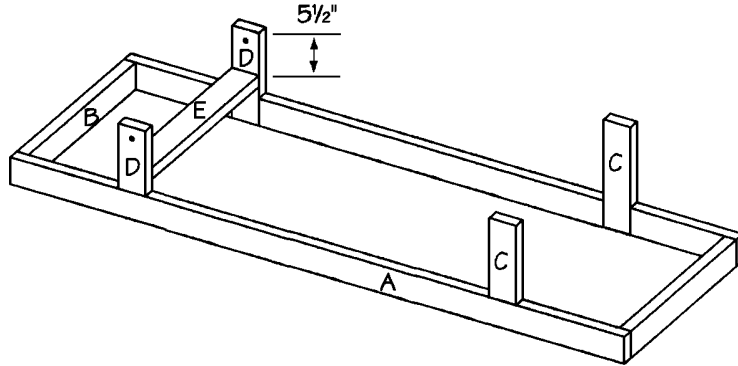
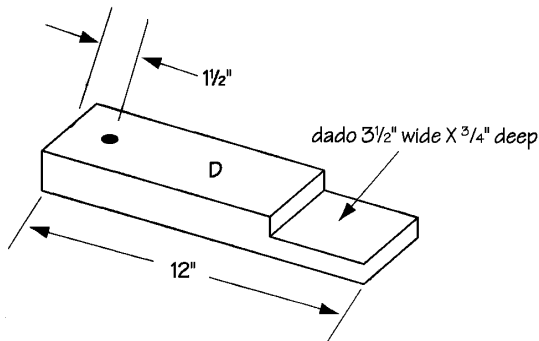

Figure 4
Figure 5
- Apply glue to the meeting surfaces and fit the dado in one front leg (C) into the dado 14" from the end of one side (A), as shown in *Figure 4*. Screw through the dadoed portions of both the front leg (C) and side (A), using two 1-1/4"-long screws on each side of the joint. Repeat the procedure to attach the remaining front leg (C) to the opposite side (A).
- Cut two back legs (D) from 2 x 4 pine, each measuring 12" long.
- Cut a lap dado on one end of a back leg (D), measuring 3-1/2" wide and 3/4" deep, as shown in *Figure 5*.
- Drill a 1/2" hole through the opposite end of the back leg (D). The hole should be centered on the wide surface of the back leg (D), and 1-1/2" from the end of the back leg (D).
- Apply glue to the meeting surfaces and fit the dado in one back leg (D) into one of the remaining dados in the side (A), as shown in *Figure 4*. Screw through the dadoed portions
8. Cut one leg support (E) from 2 x 4 pine, measuring 24' long.
9. Fit the leg support (E) between the two back legs (D), 5-1/2" from the bottom of the leg, as shown in *Figure 4*. Screw through the back legs (D) into the end of the leg support (E), using two 2-1/2"-long screws on each joint.